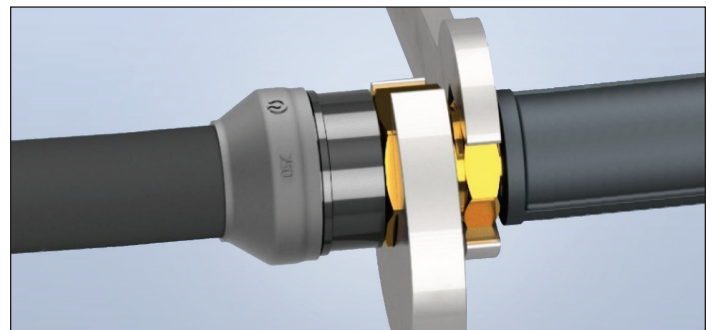

Figure: 1-7
7. Thread the Nut onto the Body to engage the threads. Using appropriate wrenches, tighten the fitting to the torque values listed in Table 2. Note that TracPipe System fitting is designed to form a leak tight seal on the stainless-steel tubing as the fitting is tightened (Figure 1-7). When fully tightened, there should be no threads visible between the Nut and Body.